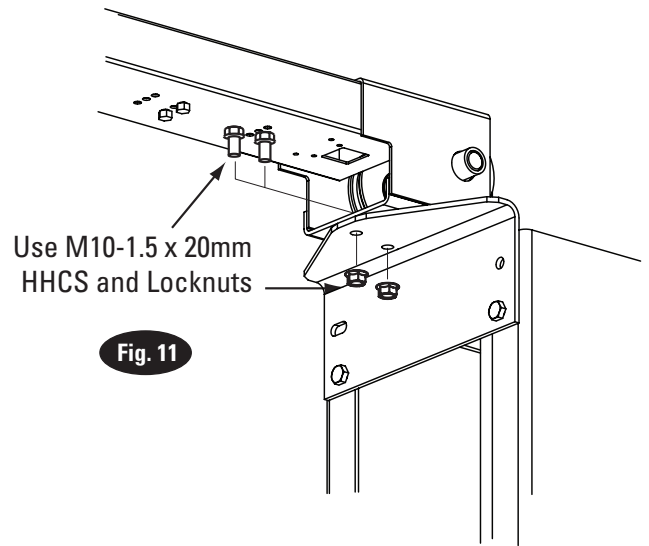

Fig. 11
11. Overhead Installation: Install overhead assembly to Mounting Bracket with (2) M10-1.5 x 20mm HHCS, and (2) M10-1.5 Flanged Locknut Fig. 11. Tighten bolts at center of overhead assembly.